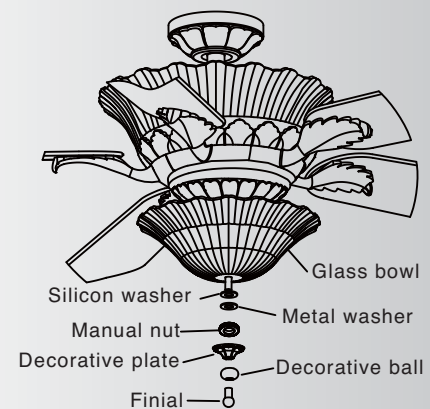

Fig. 33
Step 5. Feed the light fixture stem through the hole in the center of the glass bowl. Slip the silicon washer, metal washer and manual nut onto the light fixture stem and tighten. Slip the decorative plate and decorative ball onto the light fixture stem, then thread the finial nut onto the stem and tighten snugly but do not over tighten. Refer to Fig. 33.